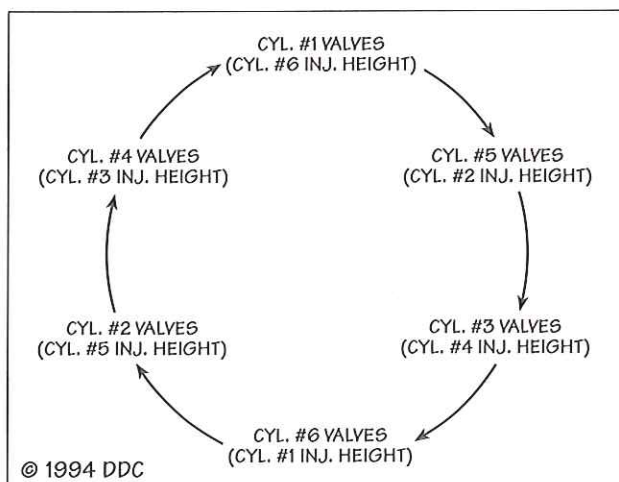

FIG. 68
Using the Timing Circle Method shown in Fig. 68, it will be necessary to bar the engine over only two complete revolutions. On each revolution, three cylinders will have valves adjusted and three other cylinders will have injector height adjusted.
10. Refer to the Timing Circle Chart in Fig. 68. Note which cylinder number is listed in the parentheses directly under the cylinder that just received valve adjustment.